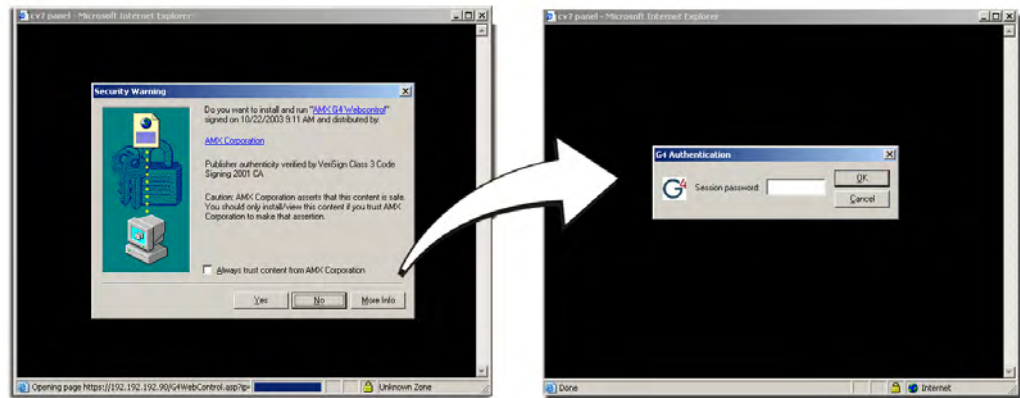

FIG. 34 Web Control VNC installation and Password entry screens
- Click on the G4 panel name link associated with the target panel. A secondary web browser window appears on the screen (FIG. 34).